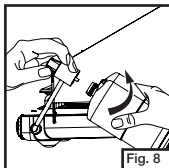

Fig. 8
- Remove plastic cap from top of propane bottle and screw propane bottle into regulator hand tight. (Fig. 8)